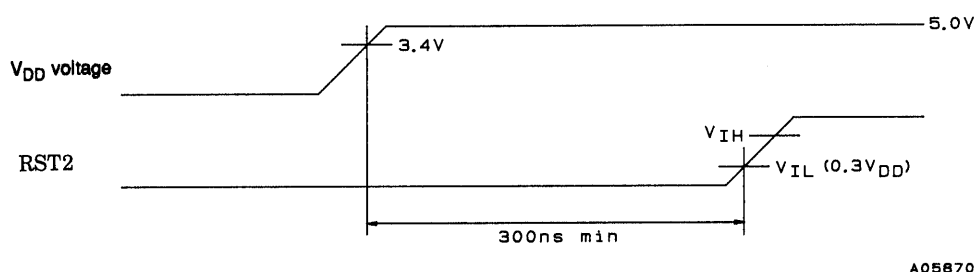

Figure 3
3. A reset must be applied when power is first applied. The LC72700E RST pin and this LSI's RST2 pin can be driven from a common signal. (See Figure 3 on page 8.)
A reset signal is applied by setting the RST2 pin input level below V_{IL} for at least 300 ns when the power-supply voltage (V_{DD}) is 3.4 V or higher. See Figure 3.